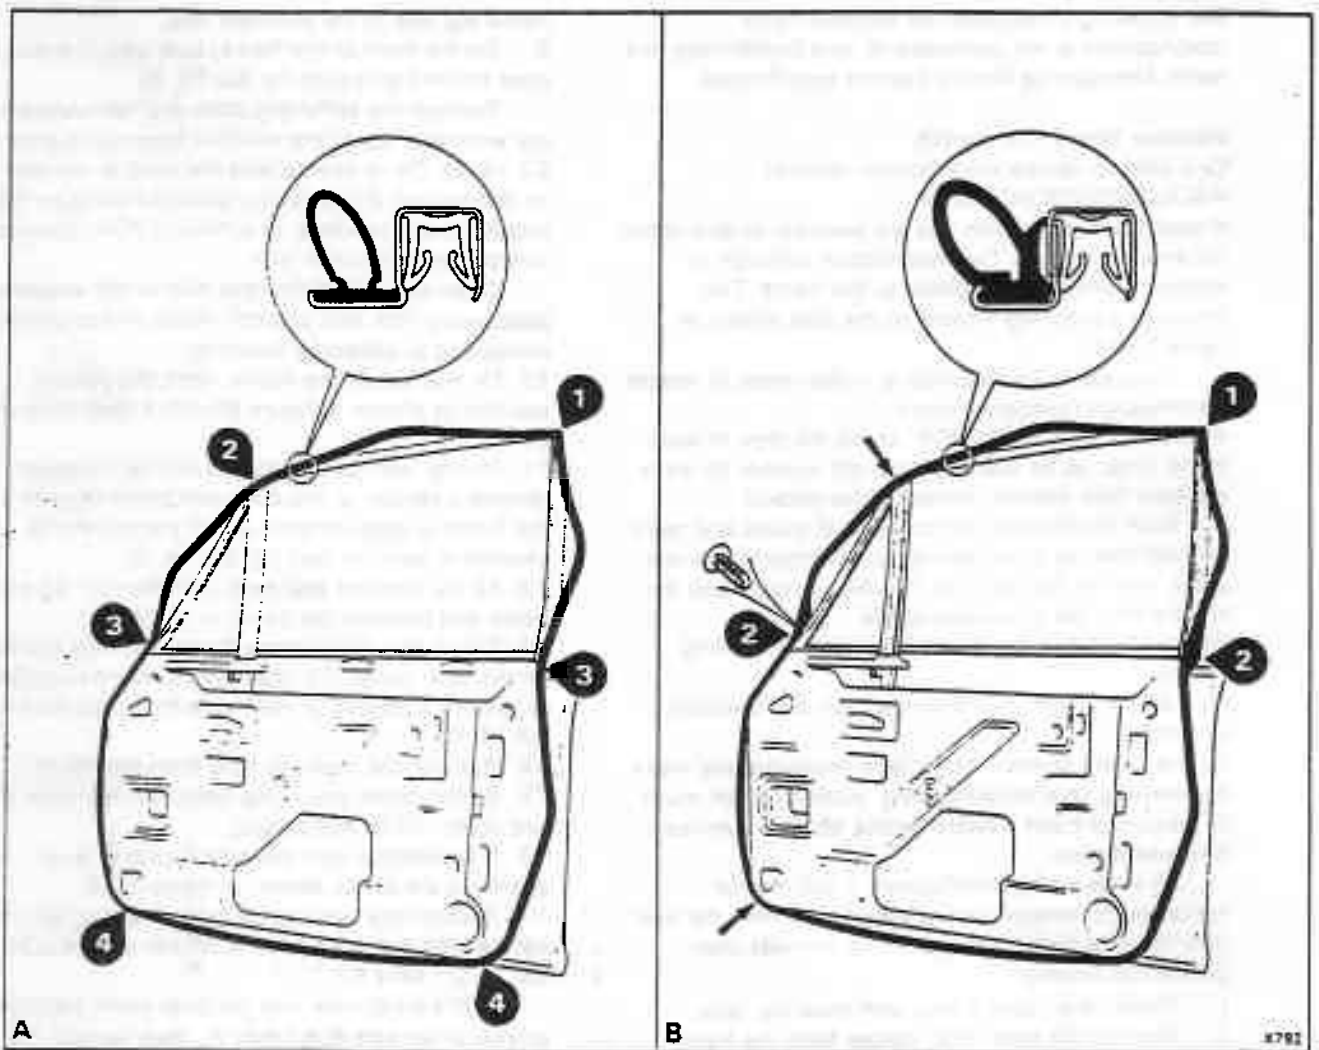

Fig. S3-13 Door to body seals
Dunlop door seals - To remove and fit (see fig. S3-13, A)
2. Fit the door seal at the points 1,2,3, and 4 shown in figure S3-13, A.
Meteor door seals - To remove and fit (see fig. S3-13, B)
24. Fit the door seals. Refer to Meteor door seals - To remove and fit, and figure S3-13, B. Do not use petroleum jelly or Vaseline when fitting Meteor door seals.
Slip the seal back into position and press in the Fastex drive fastener (see fig. S3-13, B).